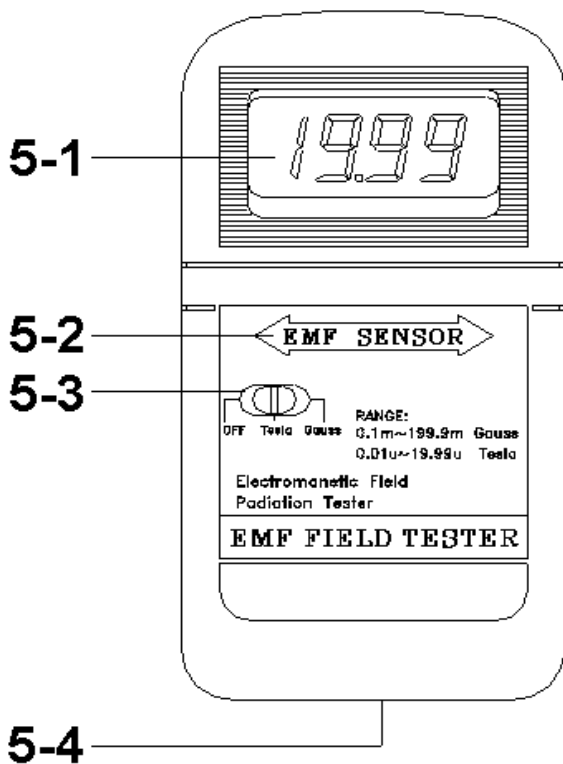

Fig. 1
- 1) Place the " OFF/micro Tesla/milli Gauss Switch " ( 5-3, Fig. 1 ) to the " milli Gauss " or " micro Tesla " position according the measurement requirement. Tester is now ready to take the measurement.
- 2) Open the Battery Cover (5-4, Fig 1) at the back of tester and remove the battery.